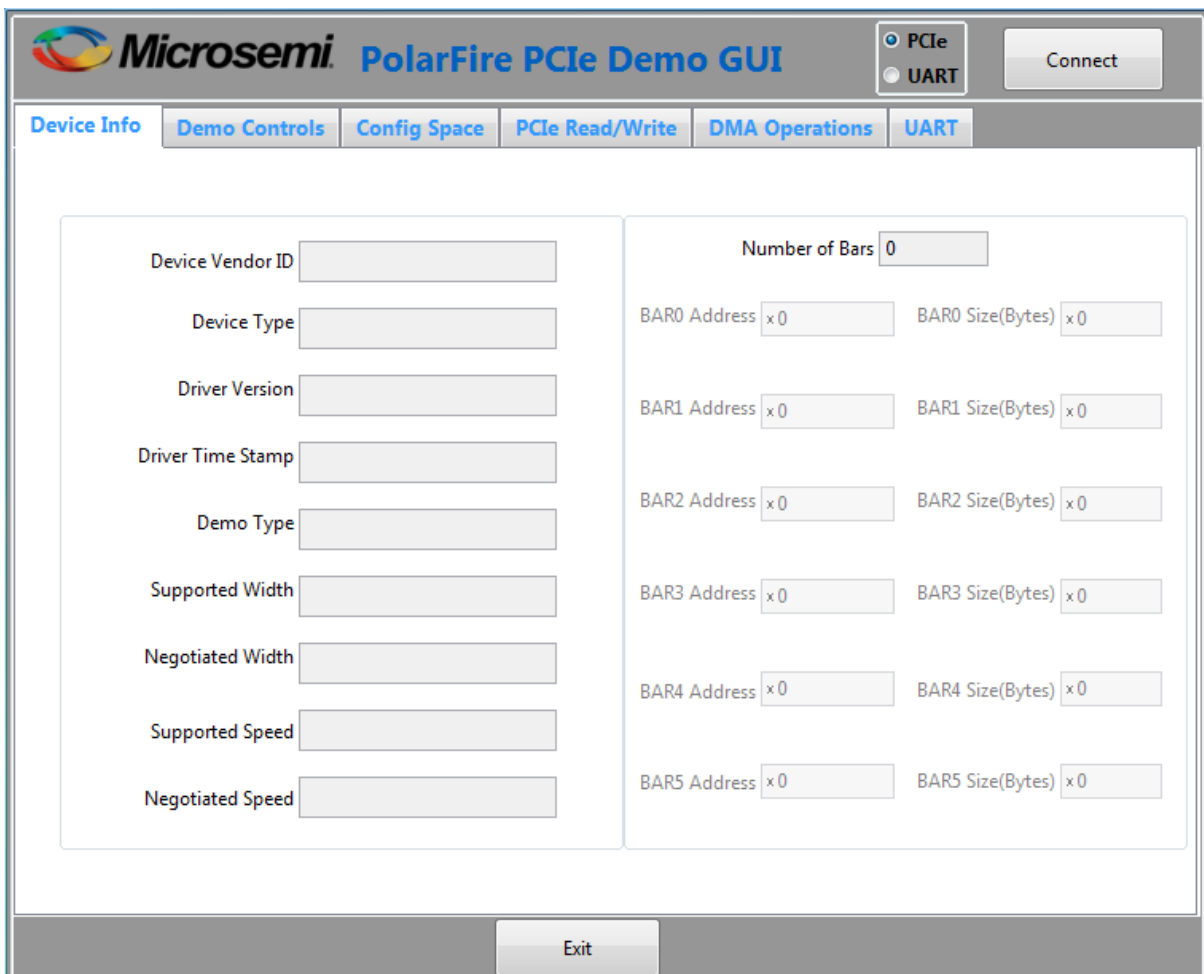

Figure 48: PCIe end point demo application
1. Go to **All Programs > PolarFire_PcIe_GUI > PolarFire_PcIe_GUI**. The **PolarFire PCIe Demo** window is displayed as shown in Figure 48.